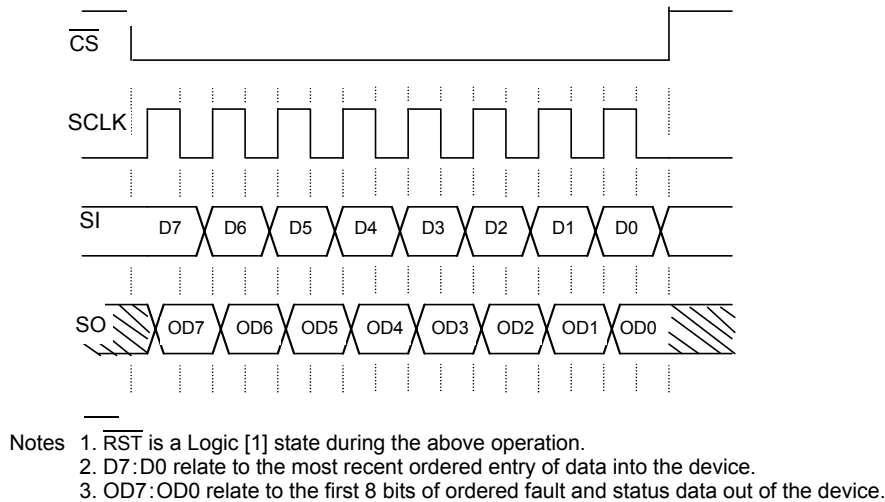
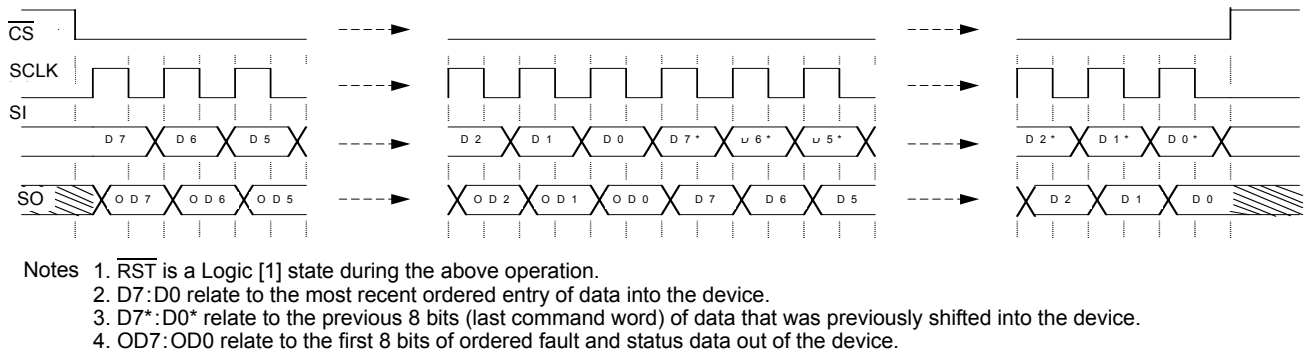

Figure 9. Single 8-Bit Word SPI Communication
Figure 10. Multiple 8-Bit Word SPI Communication
while the serial output (SO) terminal shifts data information out of the SO line driver on the rising edge of the SCLK signal. It is important that the SCLK terminal be in a logic low state whenever \overline{CS} makes any transition. For this reason, it is recommended that the SCLK terminal be in a Logic [0] state whenever the device is not accessed (\overline{CS} Logic [1] state). SCLK has an active internal pull-down, I_{DWN} . When \overline{CS} is Logic [1], signals at the SCLK and SI terminals are ignored and SO is tri-stated (high impedance). See Figure 9 and Figure 10.